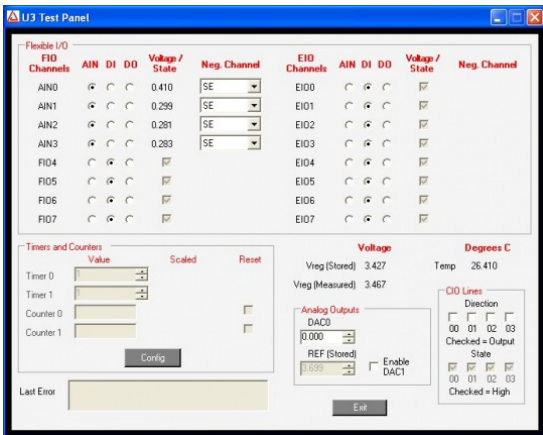

Figure 1-3. LJControlPanel U3 Test Window
- Test: Opens the window shown in Figure 1-3.
Figure 1-3 shows the U3 test window. This window continuously (once per second) writes to and reads from the selected LabJack.